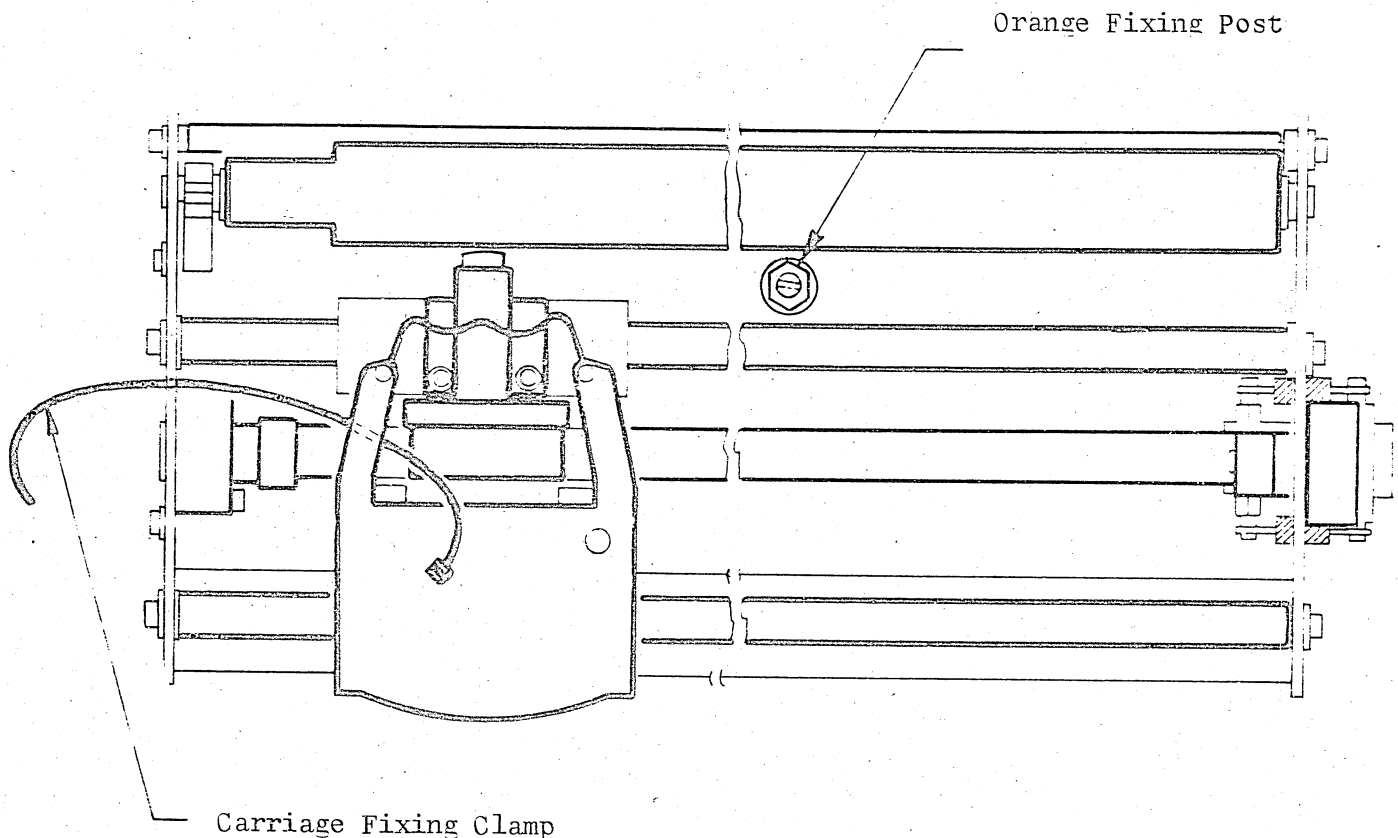

Fig. 6.3
(See fig.6.3)
- 7) Remove the post fixing the mechanism to the base (See fig. 6.3)